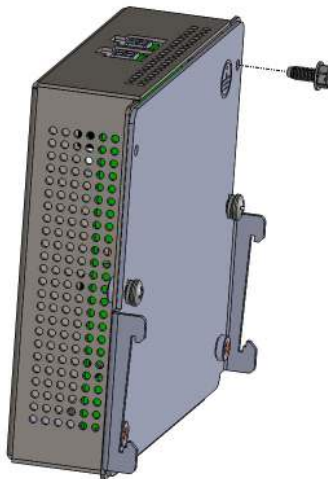

Figure 6. Installing grounding screw
3. Insert the thread-cutting grounding screw to the bracket hole nearest the ground symbol, shown in Figure 6.